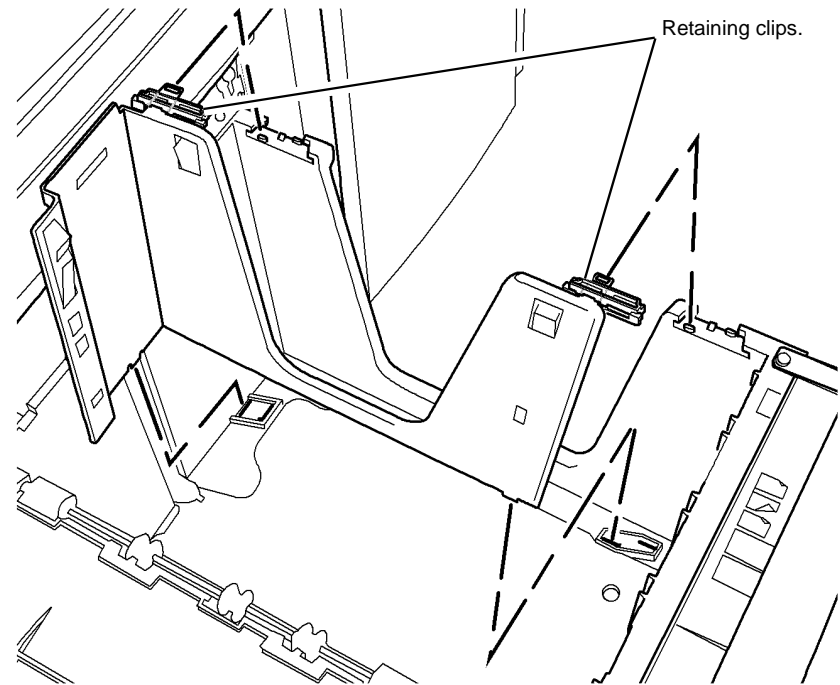

Figure 2 Set the paper guide to A4 size
- Refer to Figure 2 to set the paper tray guide to A4 paper size and reposition the retaining clips.